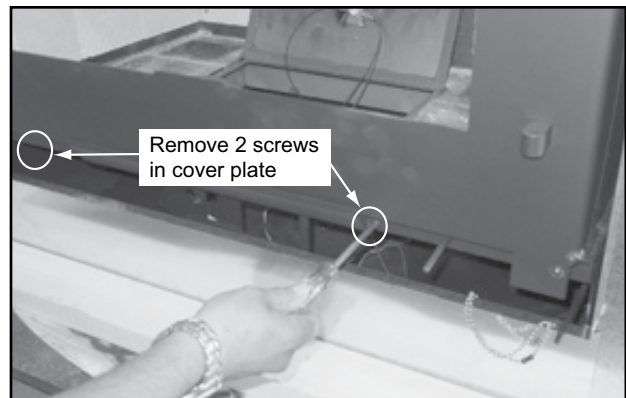
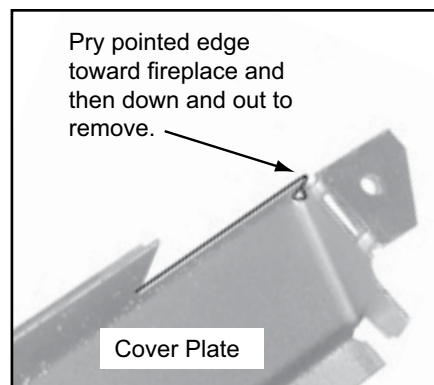

Figure 35.3
Figure 35.5
6. Remove 2 screws from cover plate & pull cover plate toward you. Figures 35.3 & 35.4. Use a flat head screwdriver to pry the corner edge loose. Pry toward the fireplace and then press down and out. Figure 35.5.